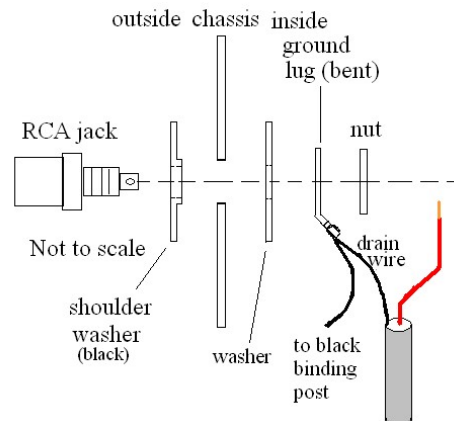

Figure 33-Installing RCA jacks
4. Insert the RCA jack and the *two insulating washers* and ground lug as shown in Figure 33. The ground lug already has two black wires attached. Tighten the mounting nut. Note that there are shoulders on the insulating washer that keep the RCA connector's body from touching the chassis.